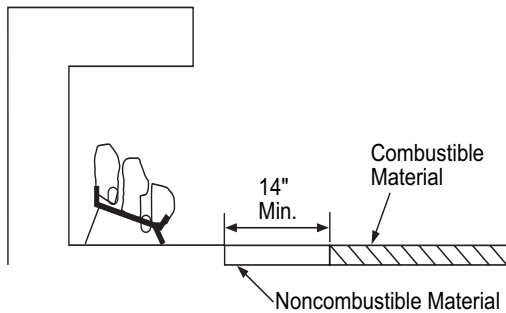

Figure 6 - Minimum Fireplace Clearances If Installed at Floor Level
A. If installing appliance on the floor level, you must maintain the minimum distance of 14" to combustibles (see Figure 6).